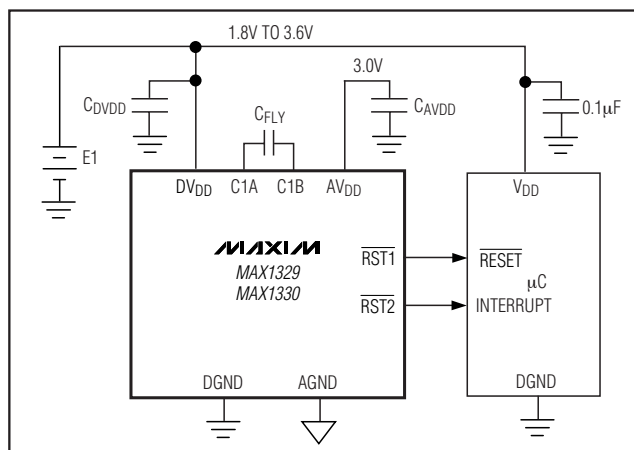

Figure 25. Power-Supply Circuit Using a Battery for  $DV_{DD}$  and Internal Charge Pump Set to 3.0V for  $AV_{DD}$
Figure 25 shows  $DV_{DD}$  is powered from a battery with the charge-pump output set to 3.0V. The charge pump can draw high peak currents from  $DV_{DD}$  under maximum load. Select an appropriately sized bypass capacitor for  $DV_{DD}$  ( $\geq 10$  times  $C_{FLY}$ ). Supply ripple can be reduced by increasing  $CAV_{DD}$  and/or the charge-pump clock frequency.
**Table 32. External Component Selection for 25mA Output Current and  $2VDVDD - VAVDD \geq 0.4V$  (Figure 25)**